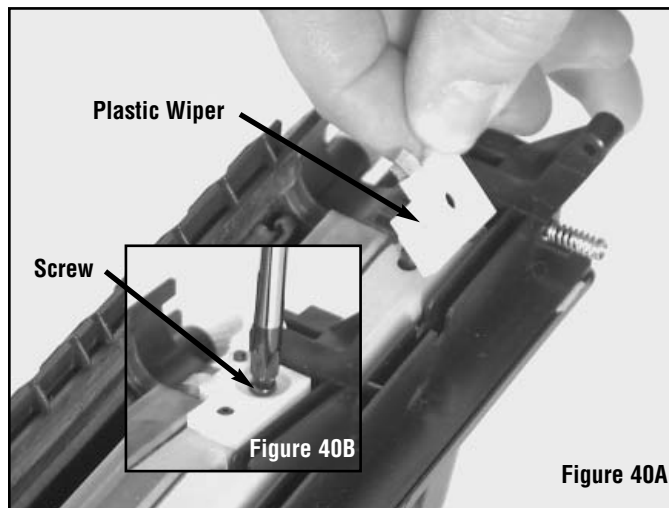

Figure 40A
- c. Place the 2 white Plastic Wipers on to the Doctor Blade as shown in figure 40A.